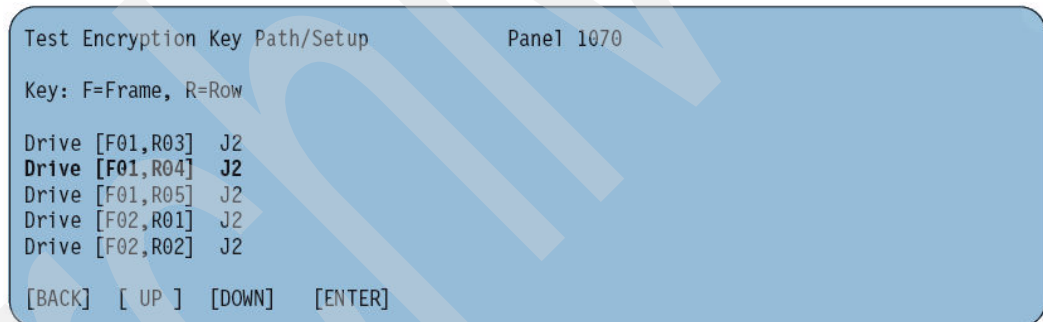

Figure 7-34 IBM TS3500 operator panel Test Encryption Key Path/Setup select screen
4. Test the encryption setup by using the IBM TS3500 tape library operator panel function **MENU** → **Service** → **Tests/Tools** → **Diagnostics** → **Test Encryption Key Path/Setup** → **ENTER** and use **DOWN** or **UP** to select the drive from the list of encryption enabled-drives as shown in Figure 7-34.